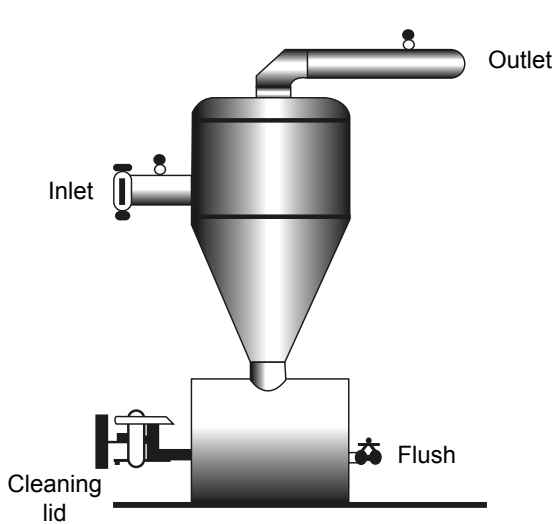

Fig. 5. Sand separator (centrifugal) filter.
- Sand Separator (centrifugal or hydrocyclone) filters** are ideal for removing suspended sand particles (often encountered in pumping from deep wells). Centrifugal separators will remove particles down to 75 microns (200 mesh). These filters spin the water, using centrifugal force to remove high density particles (Fig. 5). Pressures for water passing through the filters decrease by about 8 to 12 psi.